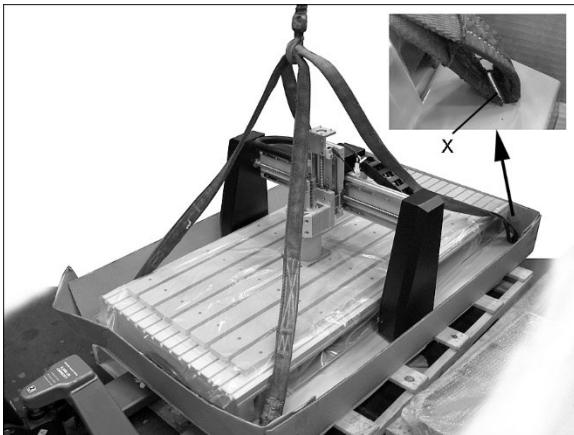

Figure 7-18
1. Place straps around steel bolts, and put bolts inside the four holes (X, Figure 7-18). **Make sure bolts are long enough to span hole** and catch beneath base, and that straps will tighten clear of gantry and any fragile parts.